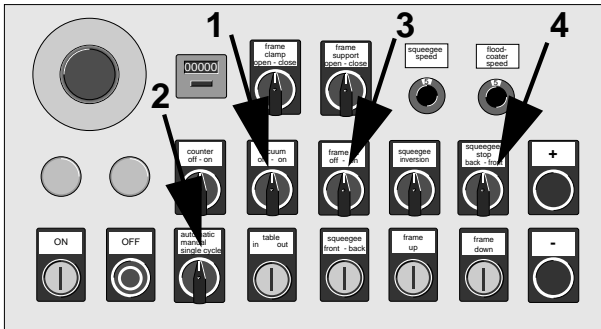

Figure 5-13. Control panel
- \* Turn ON the vacuum with **vacuum off/on** (1, Figure 5-13).